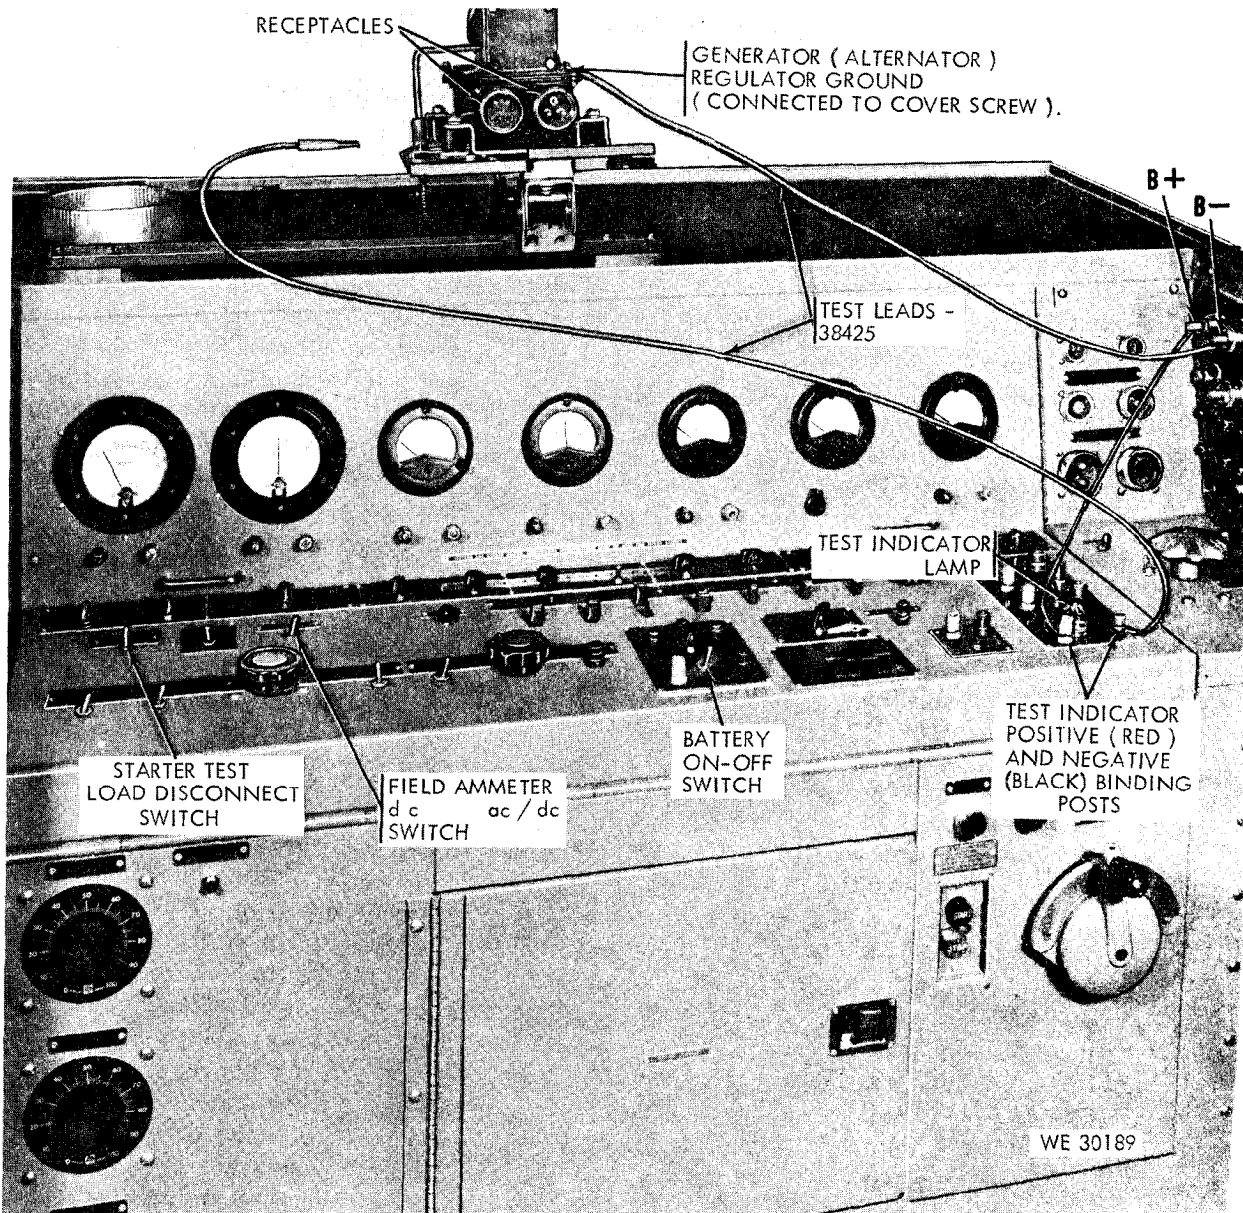
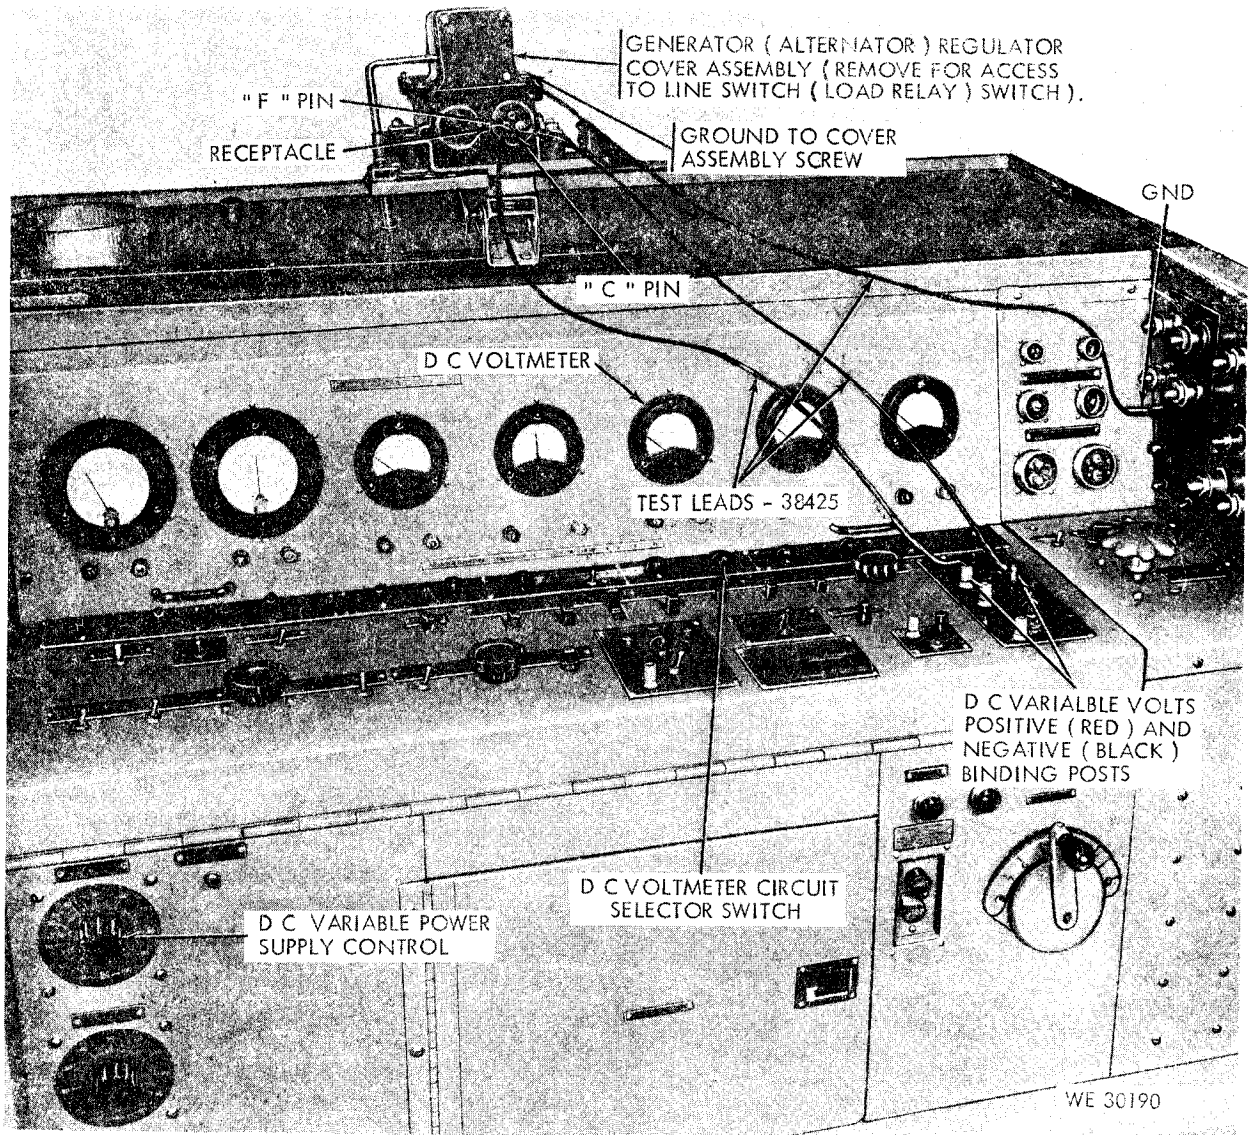

Figure 53. Testing the voltage regulator of Leece-Neville Company generator (alternator) regulator for grounds.
Figure 54. Testing the line switch (load relay) of the Leece-Neville Company generator (alternator) regulator for closing and opening voltage.
(a) Connect two test leads to the test indicator binding posts as shown in (fig. 53). Connect the test lead
- from the positive (red) test indicator binding post to the B+ binding post (A, fig. 15) as shown in figure 53, and leave the other end of the test lead which is connected to the negative (black) test indicator binding post unconnected as shown in figure 53.
- (b) Connect a test lead from the cover screw of the generator (alternator) regulator to the B- binding post (B, fig. 10) as shown in figure 53.
- (c) Place the starter test load disconnect switch in the "ON" position, the field ammeter dc ac/dc switch in the "ON" position, and the battery on-off switch in the "ON" position (fig. 53).
- (d) Touch the free end of the test lead, (a) above, to each pin and socket of the two receptacles (fig. 53) of the generator (alternator) regulator. Test indicator lamp (fig. 53) should not light when any receptacle pin or socket is touched. Remove the test leads from the test indicator binding posts and continue with tests in (3) below.
- (3) *Line switch (load relay) - closing and opening test.*
- (a) Remove the cover assembly (fig. 54) from the generator (alternator) regulator to have access to the adjustment nut (fig. 56) of the line switch (load relay).
- (b) Connect two test leads to the dc variable volts binding posts as shown in figure 54. Connect the lead from the positive (red) dc variable volts binding post to the "F" pin in the receptacle as shown in figure 54. Connect the lead from the negative (black) dc variable volts binding post to the "C" pin in the receptacle as shown in figure 54.
- (c) Connect a test lead from the cover screw of the generator (alternator) regulator to the ground (GND) binding post (10-E, fig. 15) as shown in figure 54.
- (d) Place the dc voltmeter circuit selector switch (fig. 54) in the "VARIABLE VOLTS" position.
- (e) Slowly turn the dc variable power supply control (fig. 54) clockwise, until the lower contacts of the line switch (load relay) (fig. 56) close, and observe the voltage reading on the dc voltmeter (fig. 54). The voltage reading should be 13 volts plus or minus 1 volt.
- (f) Slowly turn the dc variable power supply control (fig. 54) counterclockwise until the lower contacts of the line switch (load relay) (fig. 56) open, and observe the voltage reading on the dc voltmeter (fig. 54). The voltage reading should be between 9 and 11 volts.